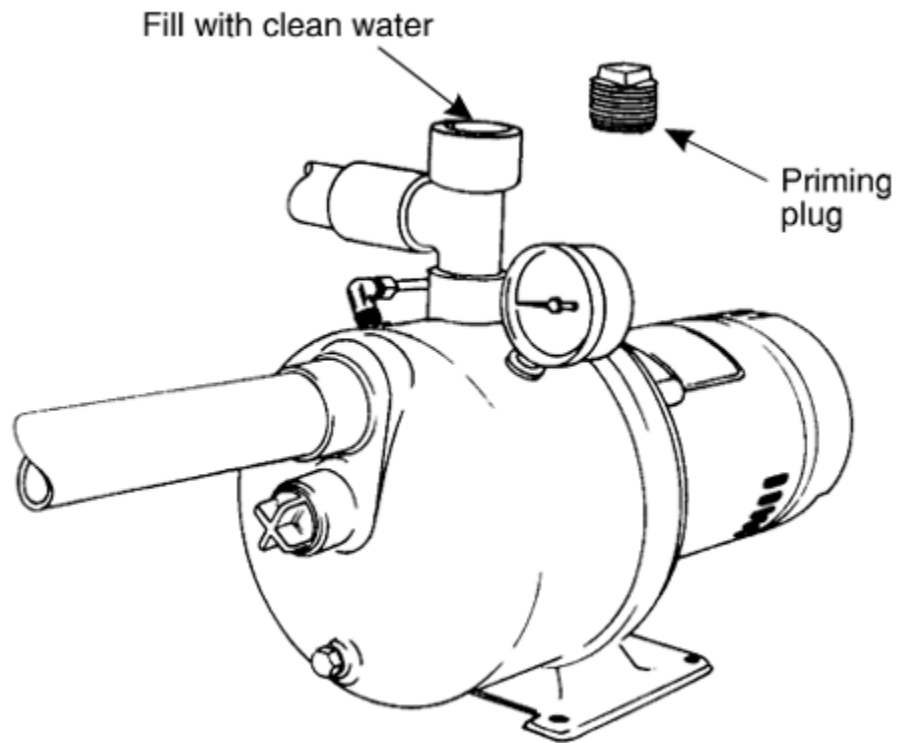

Figure 68. Shallow well pump with discharge tee
A discharge tee and priming plug may need to be installed onto the pump if it was not supplied with one (Figure 68). Install temporary piping or hose with a shutoff valve onto the branch outlet of the discharge tee. Route the temporary piping or hose to a drain to enable the pump to be run for a period of time to ensure all of the air has been removed.
- Figure 68. “Shallow well pump with discharge tee” from Grundfos is used for educational purposes under the basis of fair dealing.